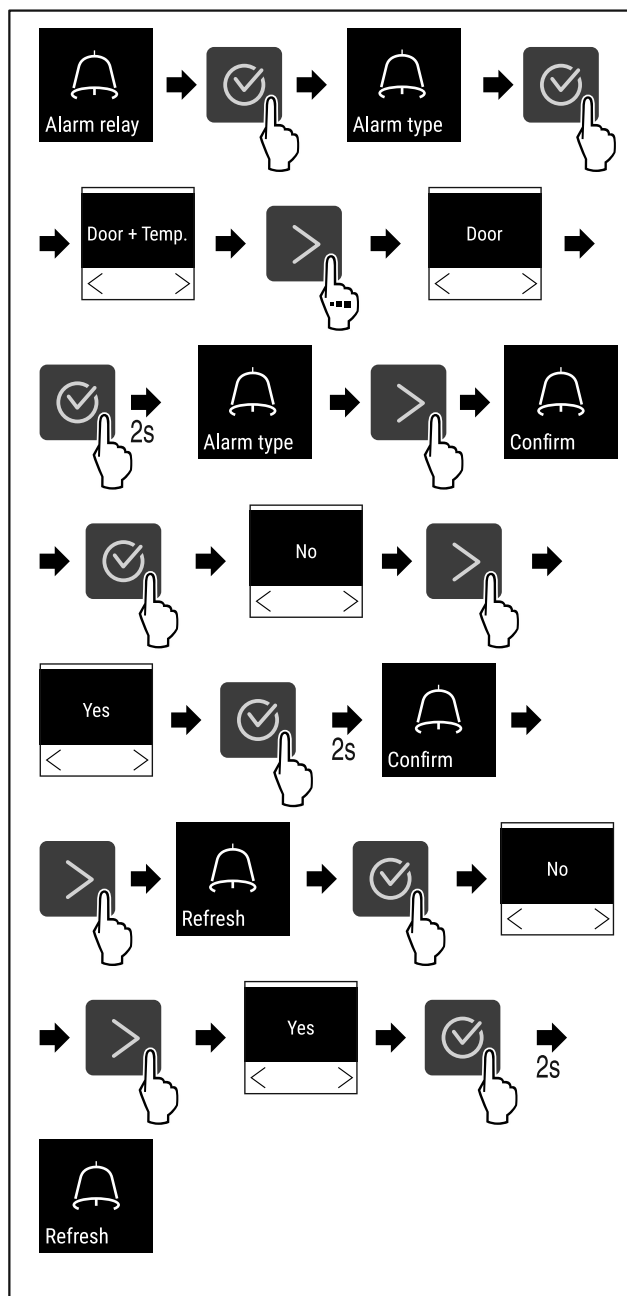

Fig. 122
- ▶ Complete steps (see Fig. 122).